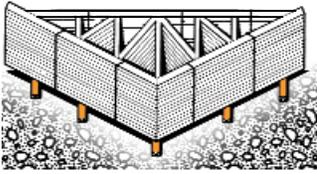

FIGURE B1-4
- ✓ Trusses may be unloaded directly on the ground at the time of delivery or stored temporarily in contact with the ground after delivery. If Trusses are to be stored horizontally for more than one week, place Blocking of sufficient height beneath the stack of Trusses on 8' to 10' intervals (or as required) to minimize Lateral Bending and to lessen moisture gain from the ground (See Figure B1-4, page 4).